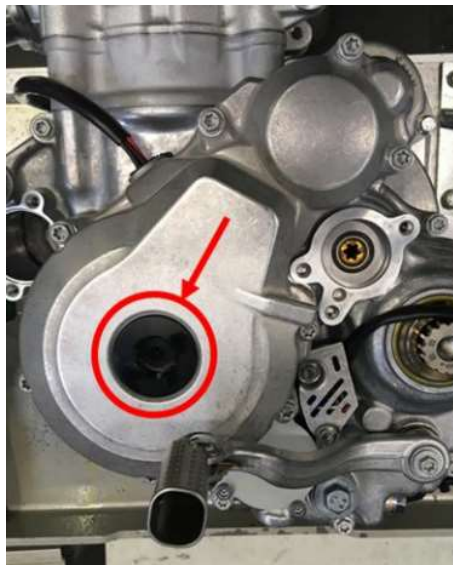

Fig 1. – Screw plug
- Check the screw plug of the ignition cover (Fig. 1) for the correct torque. If required, tighten with a torque wrench to 18 Nm. (Table 1)